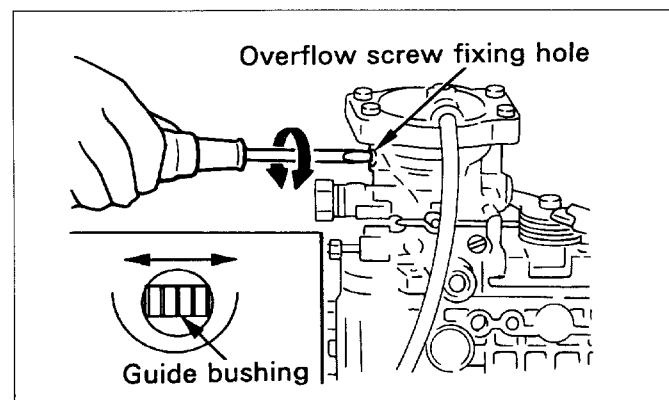

Fig.15-36 Adjusting the guide bushing
(6) Insert a screwdriver through the overflow screw fixing hole, and then turn the guide bushing. (See Fig.15-36)